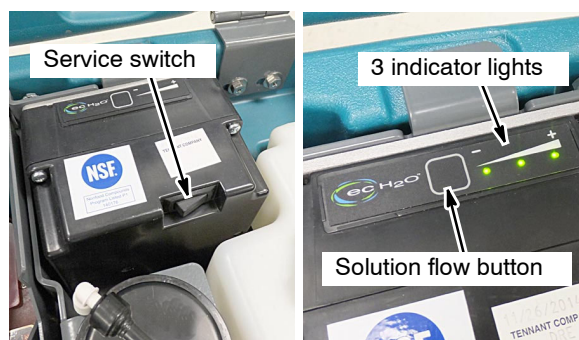

FIG. 130
- b. Press and hold the service switch, located on the ec-H2O module, for 10 seconds. After releasing service switch, the three solution flow indicator lights will begin to (ripple) move back and forth (Figure 130).
- c. Within 5 seconds after releasing the service switch, while the three indicator lights are moving back and forth, quickly press and release the solution flow button located on ec-H2O module (Figure 130).